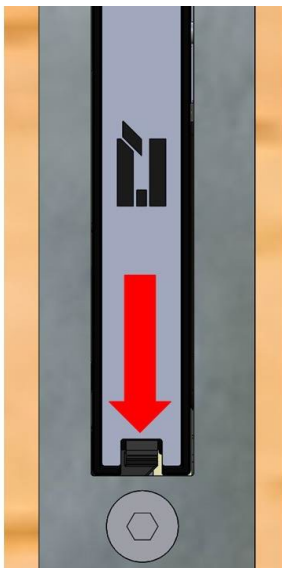
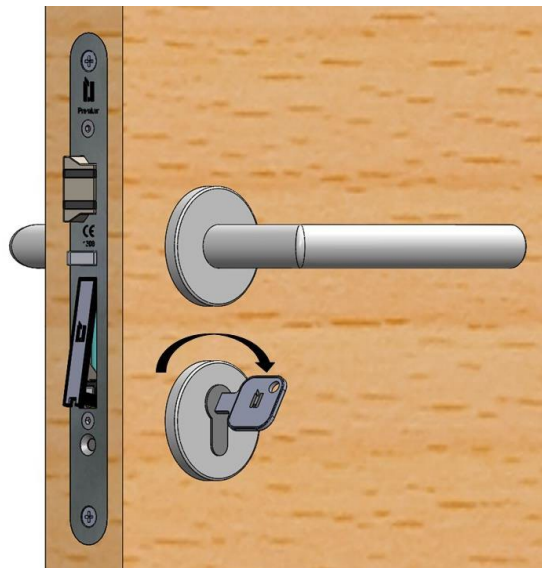

Fig. 6.1 – Battery change step 1
Fig. 6.2 – Battery change step 2
- To release the battery compartment cover, press the notch in the direction of the arrow (Fig. 6.1) with a flat-blade screwdriver while simultaneously turning the key in the unlocking direction until it stops (Fig. 6.2).